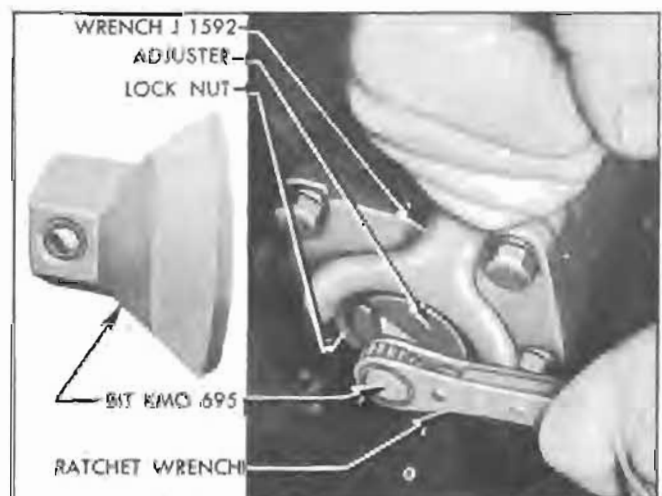

Figure 7-6—Adjusting Worm Thrust Bearings
6. Tighten housing end cover bolts. Loosen worm thrust bearing adjuster lock nut, using Wrench J 1592. Turn thrust bearing adjuster, using Adjuster Bit KMO 695 and a ratchet wrench, until a slight load is felt when turning steering wheel near extreme positions, then tighten lock nuts. See figure 7-6. CAUTION: *Do not back out adjuster far enough to permit*